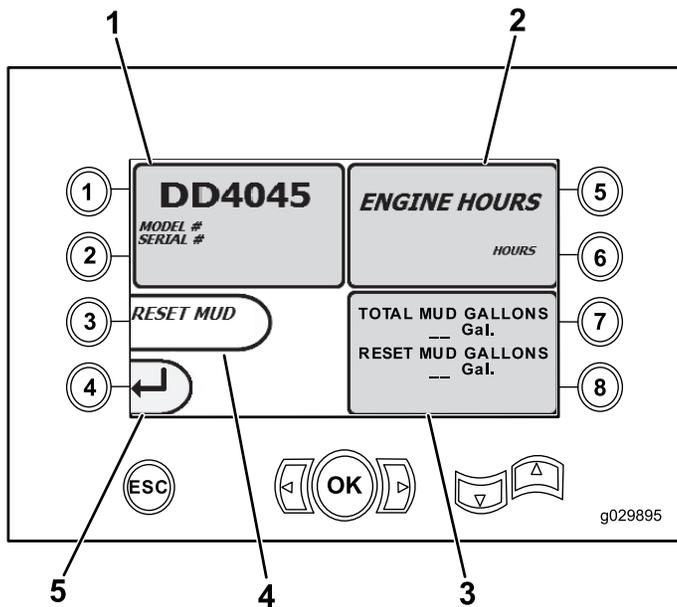

Figure 10
- The machine model and serial number (Figure 10).
- The number of engine hours for the machine (Figure 10).
- The number of drilling fluid-gallons used and the number of re-settable drilling-fluid (mud) gallons used (Figure 10).
Note: Push button 3 to reset the number of drilling-fluid (mud) gallons since the last reset (Figure 10).